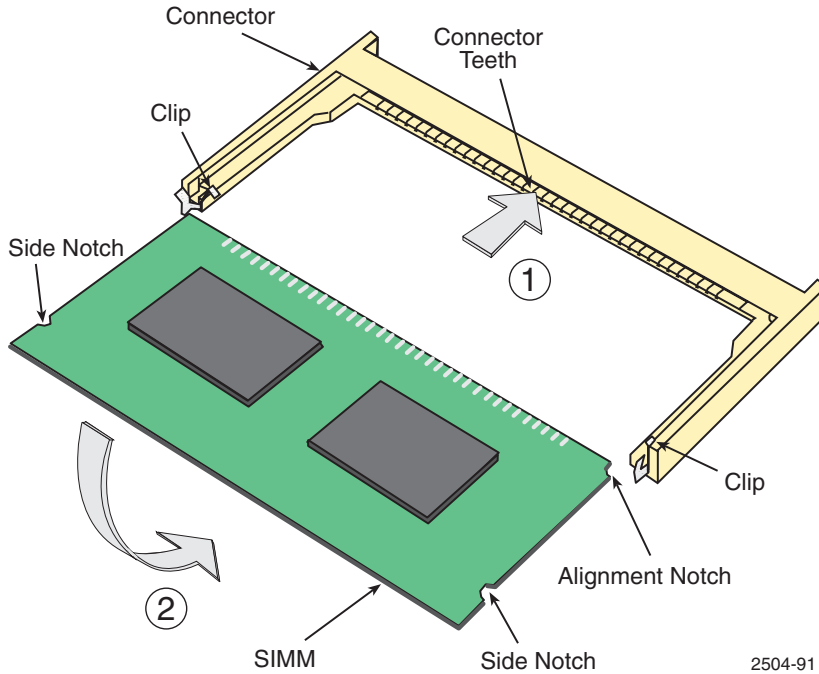

Figure B-3 Installing the DRAM
To install a DRAM SIMM, refer to Figure B-3 and proceed as follows:
1. With the SIMM alignment notch oriented as shown in Figure B-3, insert the SIMM down between the connector teeth.